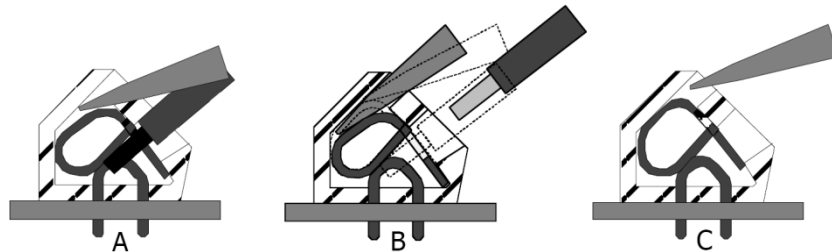

Figure 50 Removing connections in screwless spring-loaded terminals
- Place a size 1 screwdriver in the upper opening and insert it turning slightly upwards (figure 50 A).
- Then draw the wire from the lower opening (figure 50 B).
- Withdraw the screwdriver (figure 50 C).